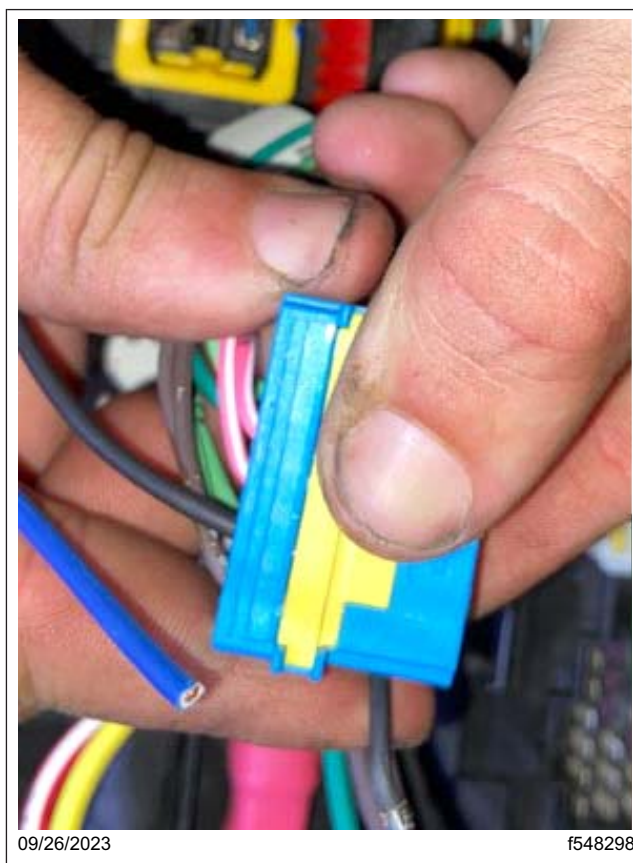

Fig. 30, Engaging the Lock on the SSAM X2 Connector
- 10.5 Squeeze the yellow locking tab back into the connector to lock it. See Fig. 30.